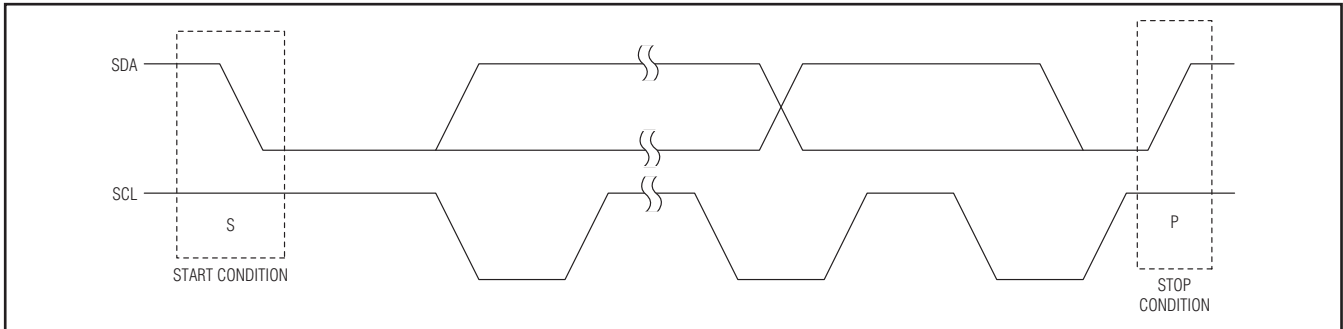
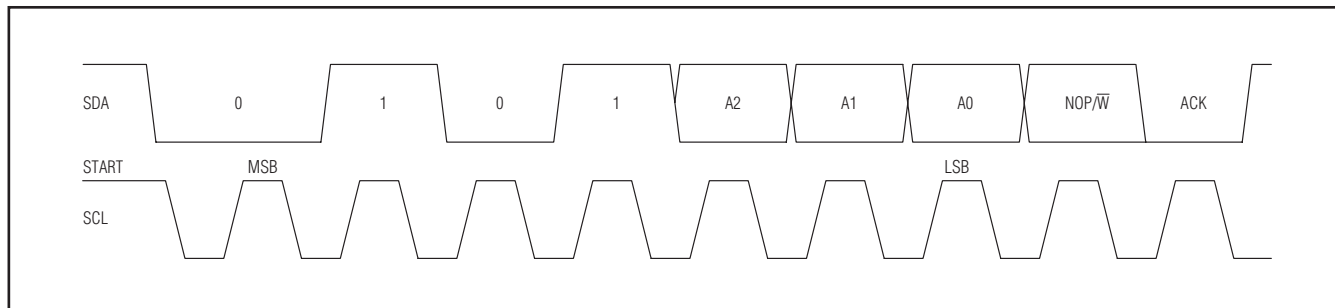

Figure 3. START and STOP Conditions
Figure 6. Slave Address
Each transmission consists of a START (S) condition (Figure 3) sent by a master, followed by the MAX5387 7-bit slave address plus the NOP/W bit (Figure 6), 1 command byte and 1 data byte, and finally a STOP (P) condition (Figure 3).
The MAX5387 includes a 7-bit slave address (Figure 6). The 8th bit following the 7th bit of the slave address is the NOP/ $\overline{W}$  bit. Set the NOP/ $\overline{W}$  bit low for a write command and high for a no-operation command. The device does not support readback.